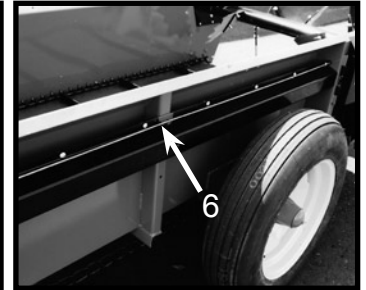

Figure 14-4
6. Drive shaft bearing- One (1), Figure 14-4 *